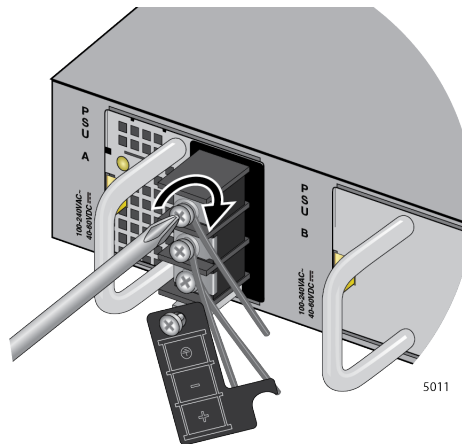

Figure 51. Tightening the Screw for the Negative (+)
- Wind the power wire and tighten the screw. Refer to Figure 51.